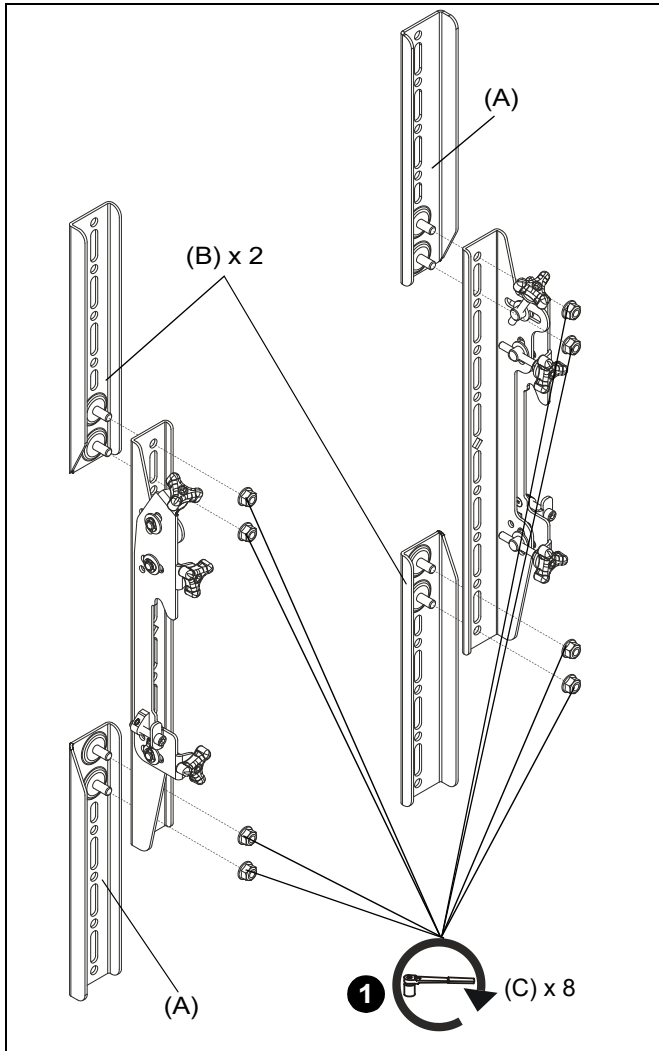

Figure 1
1. Use two 5/16-18" lock nuts (C) to attach each bracket (A and B) to existing interface brackets (not included). (See Figure 1) Make sure the brackets are installed in the correct orientation.